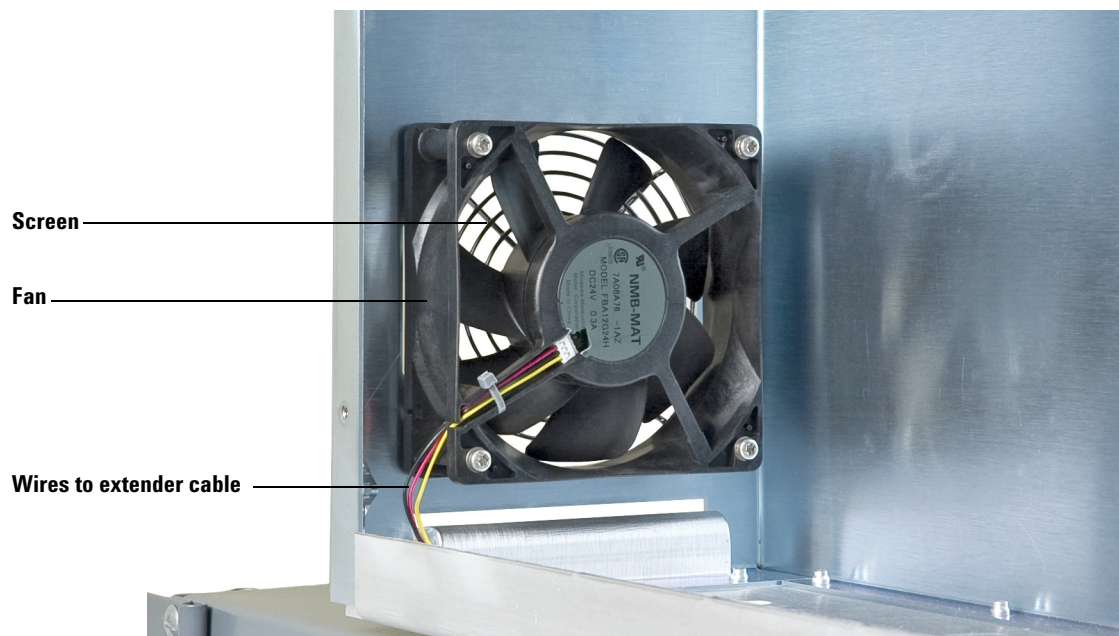

Figure 10 Replacing the turbo pump fan
- 5 Disconnect the fan wiring from the extender cable (Figure 10).